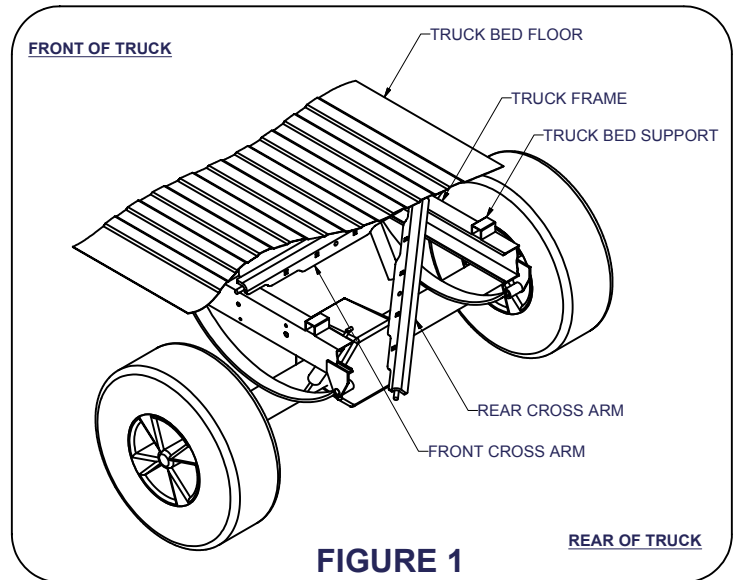
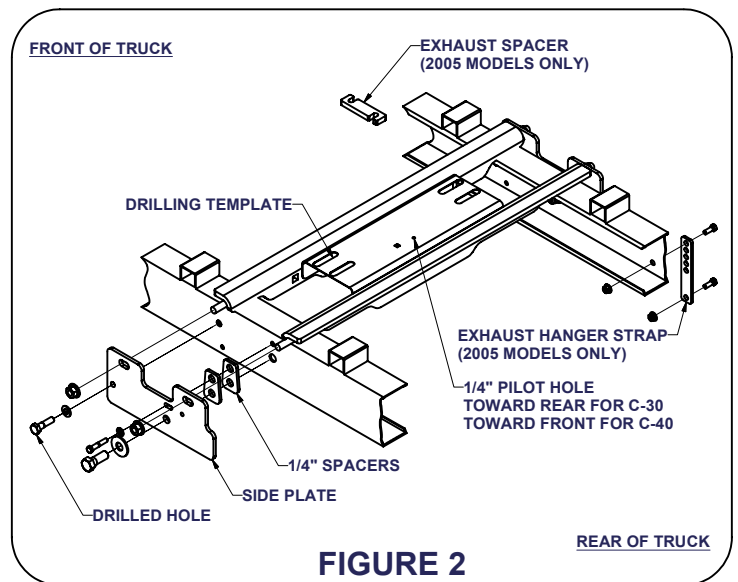

FIGURE 1
FIGURE 2
- 3) On 2005 models loosen the (2) bolts on the exhaust hanger mount in front of the rear axle between the exhaust hanger and the truck bed. Lower the exhaust approximately 1/2", insert the 1/2" spacer block provided and retighten bolts.
- 4) On 2005 models remove rear exhaust hanger and install exhaust strap as shown in **Figure 2**. Lower exhaust as needed for cross arm clearance.
- 5) Install cross arms by sliding them into the gap between the truck bed and frame on passenger side. Swing other end between the truck bed and frame gap on driver side. **(Note: Holes in the cross arms must face each other as shown in Figure 1.)**
- 6) Hang the side plates from the 5/8" studs extending from the cross arms. Secure each plate with (2) 5/8" flange nuts provided. Finger tight only.
- 7) Align side plates with the 3/4" slot in the frame. Place the 3/4" hex bolt through washer, side plate, (2) 1/4" spacers, and frame as shown in **Figure 2**. Use a 3/4" flange nut to secure, finger tight only.
- 11) With side plates and rear cross arm secure, position the drilling template provided between the cross arms as shown in **Figure 2**. Attach the template to the cross arms using four 5/8" carriage bolts and flange nuts provided with the center section. Tighten the 5/8" flange nuts with a 15/16" socket. **(Note: Template must be positioned correctly based on application as shown in Figure 2.)**